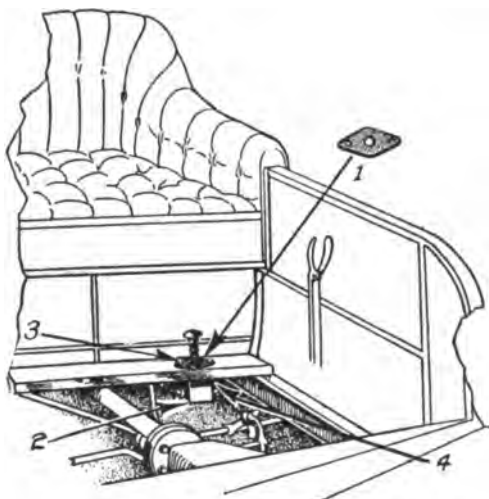

Fig. 388. Installation of Starting Switch
*Starting Switch.* The location of the starting switch and the method of installing it are shown in Fig. 388. Take the plate 1 off the starting switch and use it to mark the holes in the floor strip two inches in front of heel board and nine inches from the sill, as shown in the illustration. Make three holes for the starting switch in the rear floor strip 2 and attach the switch with bolt 3 at the side nearest the center of the car; then attach the other switch bolt 4, support